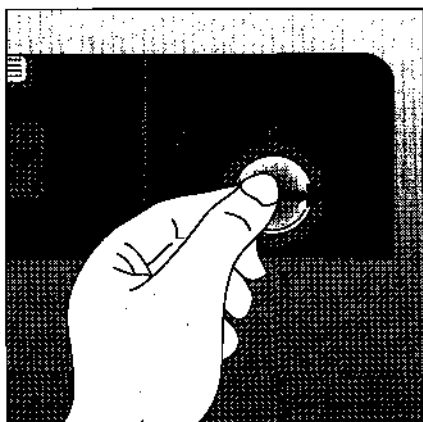

Fig. 6
- ☐ To set the dose, open the dispenser by twisting the cap 1/4 revolution anticlockwise (Fig. 6).